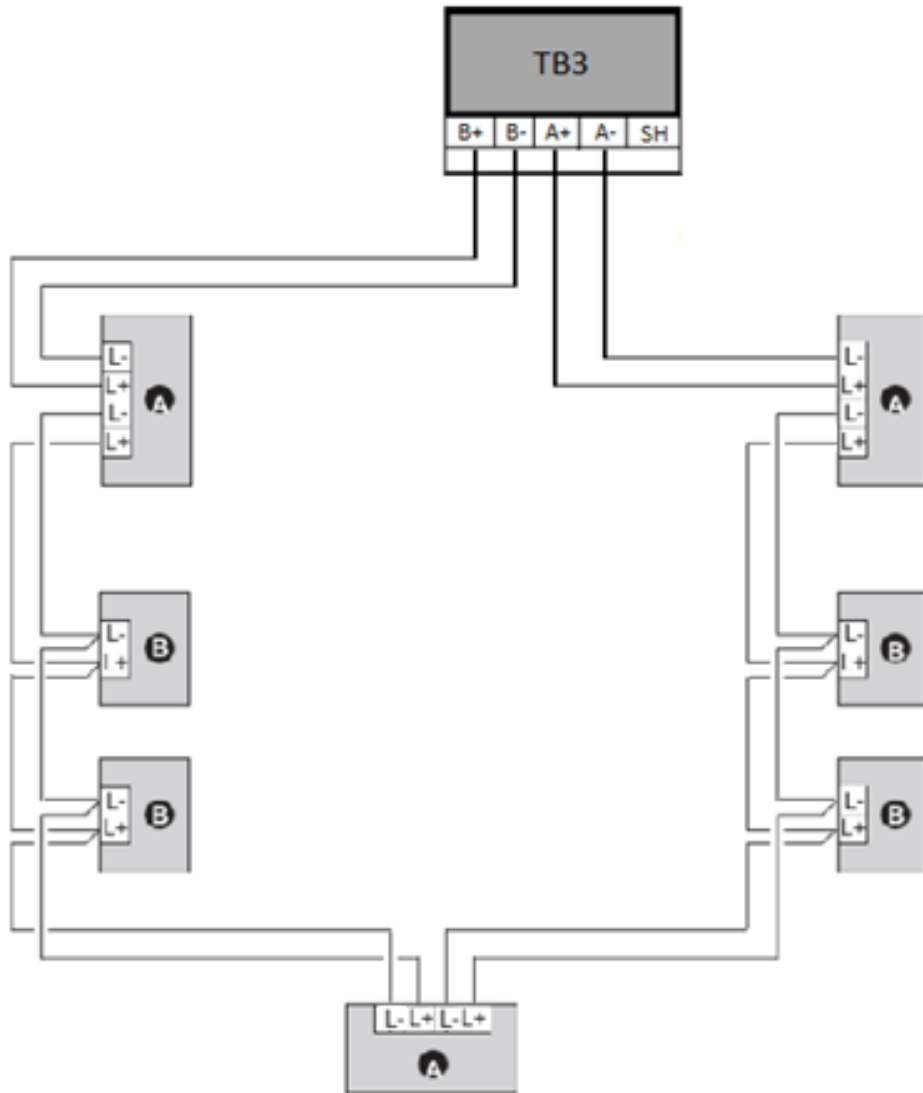

Figure 9: Class A wiring
3. Route the wiring from the first device to the next as in or out, repeat this step for each device. See Figure 9.